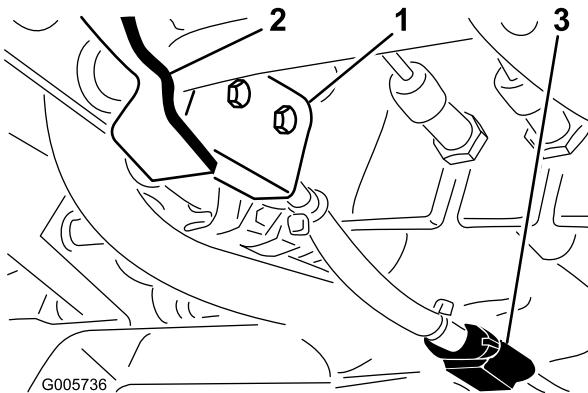

Figure 74
1. Gap between parking brake shaft pivot paddle and bottom of interlock switch (Figure 74) should be approximately 1/16" (Paddle must not contact switch).